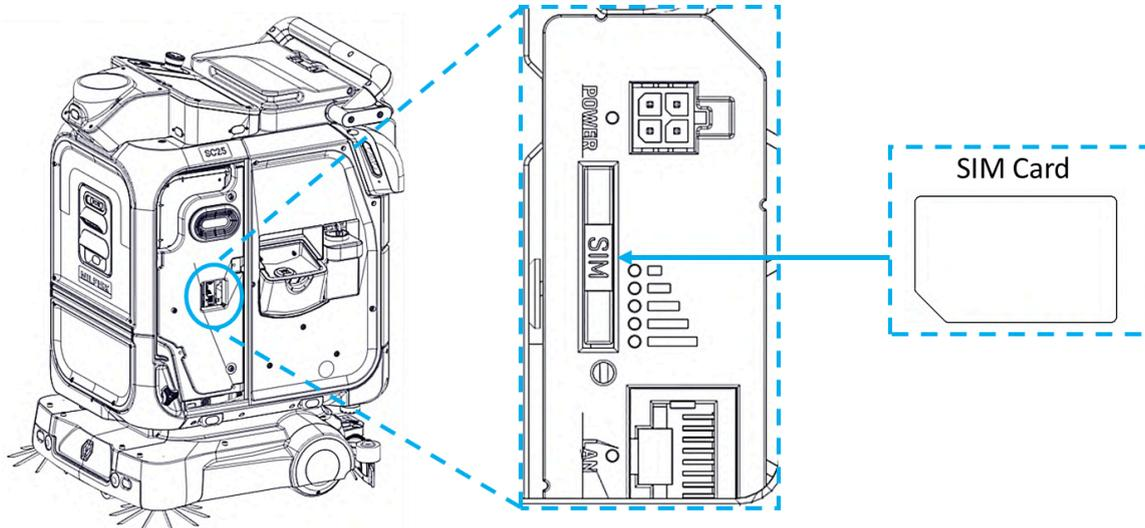

FIGURE 7-11
- When the router is located, using a small pin, push into the SIM card level beside the SIM tray. The SIM card tray will pop up (**Fig. 7-11**).